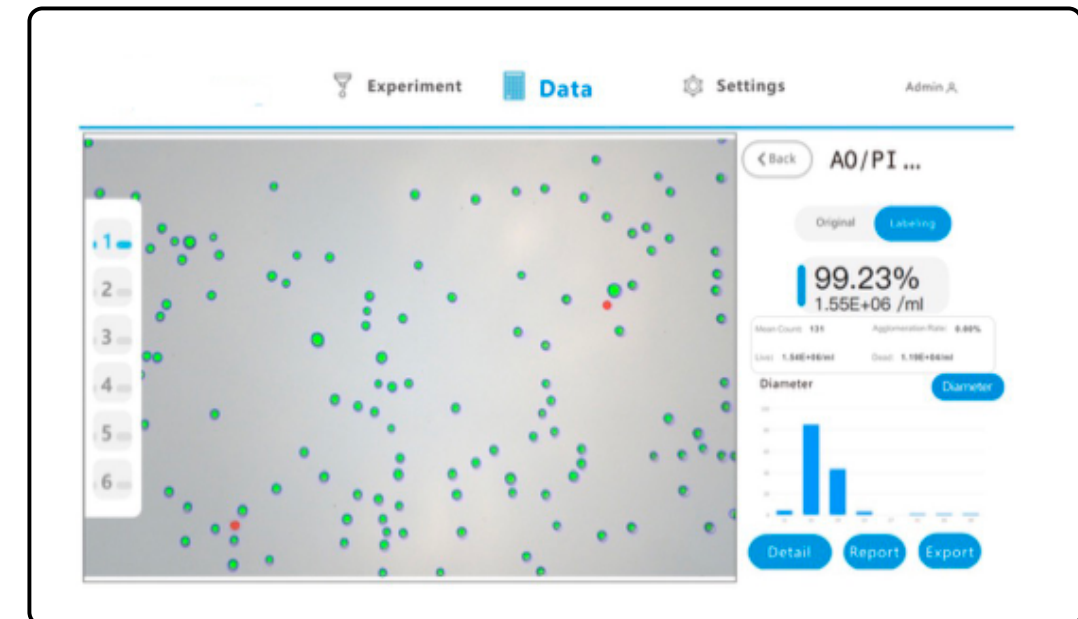
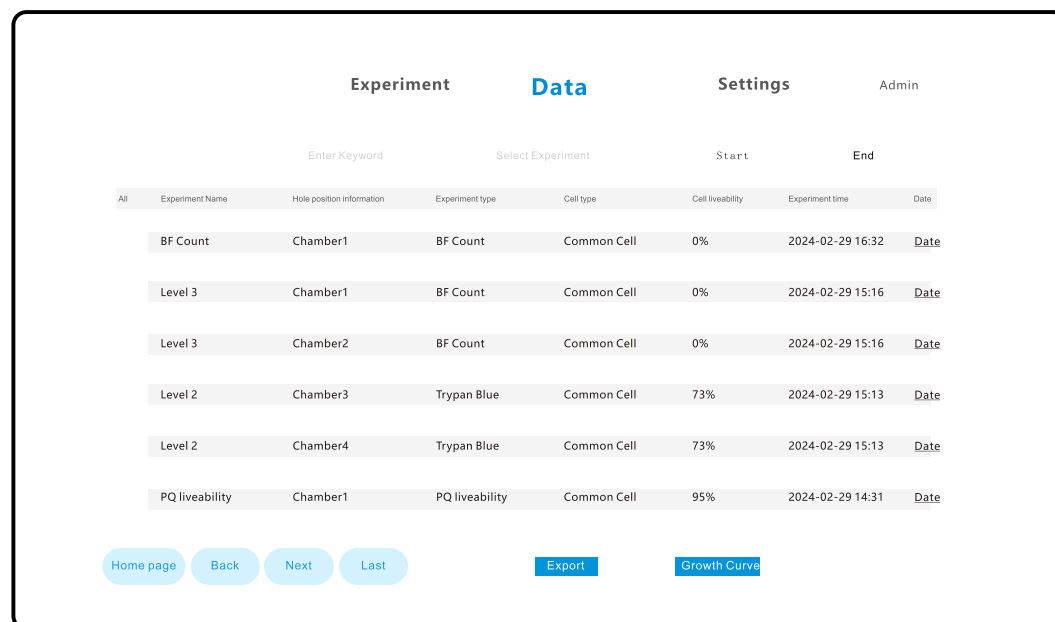

Figure 8 Result Display Interface
Figure 9: Data Interface
- 4 Figure 8: Upon completion of the measurement, the cell counting plate will automatically exit, and the results will be displayed on the screen.
Figure 9: Taking "AO/PI Viability" as an example, click "Back" on the top right corner of the result interface (Figure 8) or directly click on the "Data" on the navigation bar above, and select "admin" in the experimenter drop-down menu, "AO/PI Viability" in the experiment type drop-down menu, to enter the "AO/PI Viability" data interface. Click to select the experiment records that need to be exported.